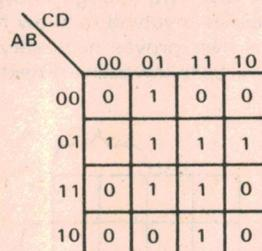

FIG. 3
Our next step is to draw up a Karnaugh map grid for the number of terms involved — here four, and place a 1 in each of the cells which correspond to the truth value combinations shown in (1). To keep the example simple, let us assume that the output of the circuit should be false for all remaining combinations, so that we can place a 0 in all of the other cells. We thus end up with a map of the required function, as shown in Fig. 3.
As it happens, our example of Fig. 3 does not involve this type of loop. However it does have a number of possible "correct answers", which is a situation that often occurs. In other words, a complex function may not have just a single "minimal" form, but may have a number of minimised forms which from the logical point of view may be equally basic. Which of these may be most desirable from a practical point of view will usually depend upon considerations other than
Three of the possible groupings for the example of Fig. 3 are shown in Fig. 5, together with the corresponding simplified logic expressions. Of the three probably the solution in (c) would be the most attractive from a practical point of view, because it results in an expression containing only four main terms, two of which contain only two of the original input terms.